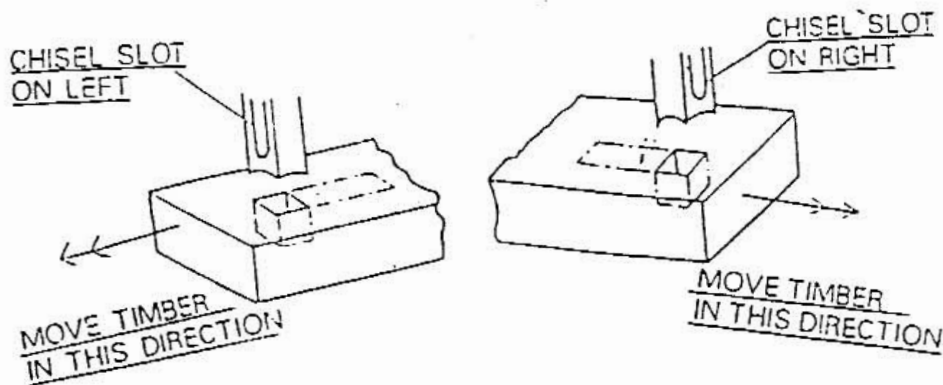

FIG. 3 MOVE TIMBER ACCORDING TO THE DIRECTION OF CHIPS ESCAPE
Turn on the switch, with left hand holding the timber, press the bar(24) by right hand to move down the elevator device(23). When drill bit reaches the timber, press with suitable strength and chips will escape freely from the chisel slot. A square mortising slot comes out on the timber. When elevator device(23) reaches the spacing sleeve(18), raise the bar(24). Move the timber to left or right and mortise it in new positions to your request. See Fig. 3.